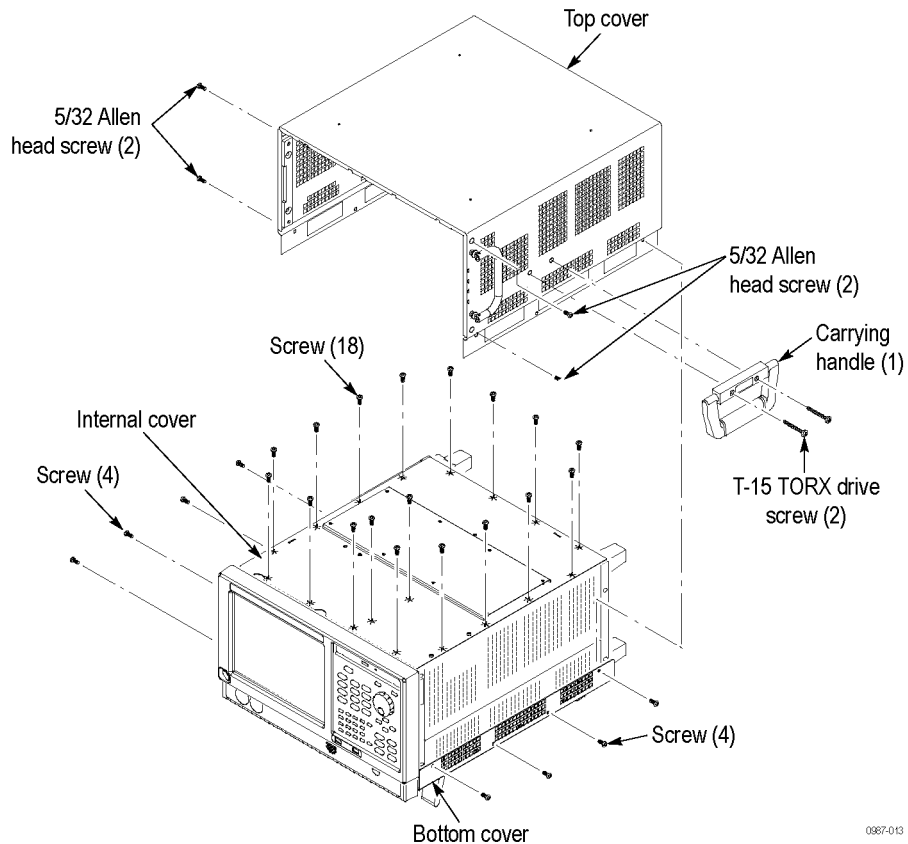

Figure 1: Removing the Cosmetic Top Cover
3. Remove the two T-15 TORX-driver screws that secure the plastic carrying handle to the side of the instrument. (It is not necessary to remove the black metal handles.) (See Figure 1.)
11. Reinstall the top internal cover. (See Figure 1 on page 4.)
Reinstall the top and bottom covers. (See Figure 1 on page 4.)
1. In the spectrum analyzer application, select Tools > Install Upgrades. The Install Upgrade wizard starts, as shown in Figure 1. Click Continue.